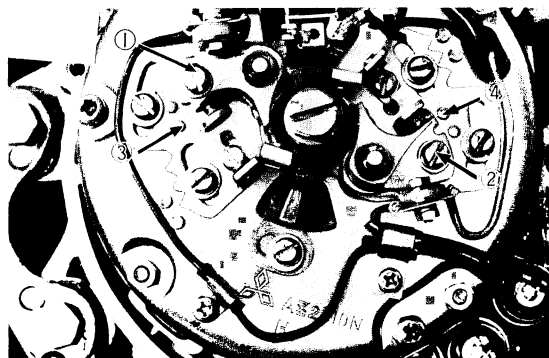

Fig. 5-2-3
- c. To gap the points, first rotate the engine until the ignition cam opens the points to their widest position. Slip a 0.4 mm feeler gauge into the gap. It must be a tight slip fit. If an adjustment is necessary, loosen the point lock screw (1 or 2) as shown in the Fig. 5-2-3, insert a screwdriver into the adjustment slots (3 or 4), and open or close the points until the feeler gauge indicates the correct gap. Retighten the lock screw and re-check the gap.